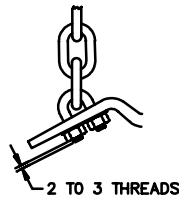

Figure 5
6. Assemble chains to spring bars as shown in Figure 4. Allow 2 - 3 threads to protrude below locknut [See figure 5]. Chain must not bind.